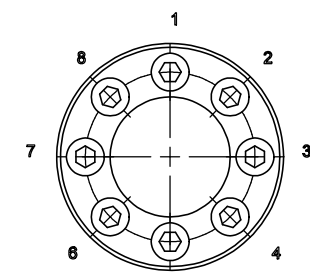

FIGURE 2
- STARTING FROM THE LAST TIGHTENED SCREW, CHECK, IN A CLOCKWISE CONTINUOUS SEQUENCE SHOWN IN FIGURE 2, THAT ALL SCREWS ARE TIGHTENED TO THE FINAL TORQUE VALUE. REPEAT THIS STEP NO MORE THAN TWICE.